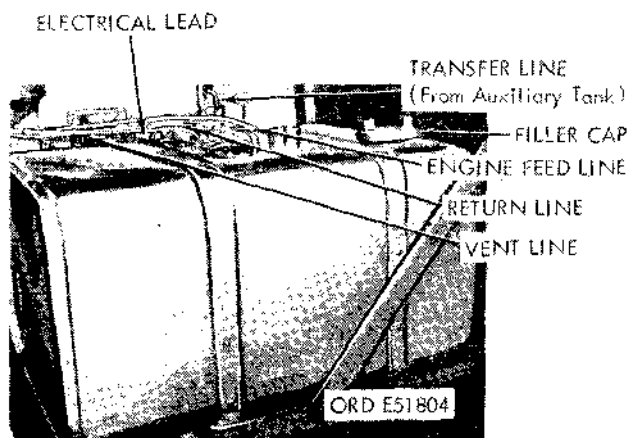

Figure 2-89. Main tank on M51A2 model.
- (2) Disconnect the engine feed line, engine return line, vent line, electrical lead and, on dual tank models, the fuel transfer line (fig. 2-89).
(3) Connect the main tank lines as follows: Feed line, return line, vent line, and electrical lead (fig. 2-89).
(4) Install the drain plug, and fill the tank with fuel. Run the engine and check the tank and line connections for leaks. If necessary, re-tighten the connections.